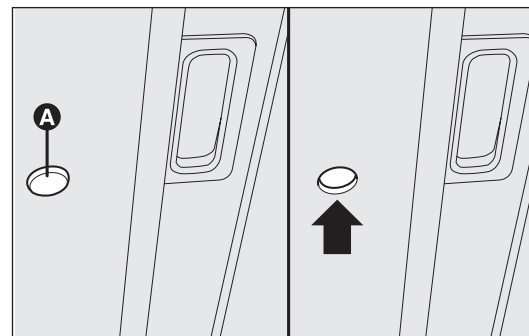

fig. 66
- ☐ insert the key into hole A-fig. 66 and turn it: